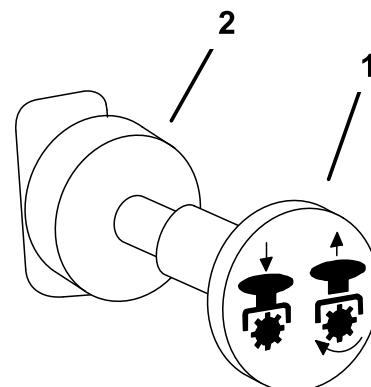

Figure 14
4. Pull out on the power take off (PTO) switch to engage it (Figure 14).
To disengage, push the PTO switch to the off position (Figure 14).